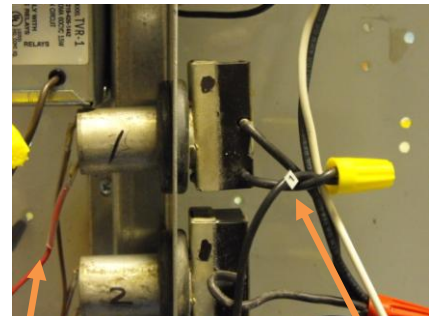

Figure 4.3
- ii. Common Wire from the Control Station to the Transverter (TVR-1/TPS-0120)-Figure 4.3